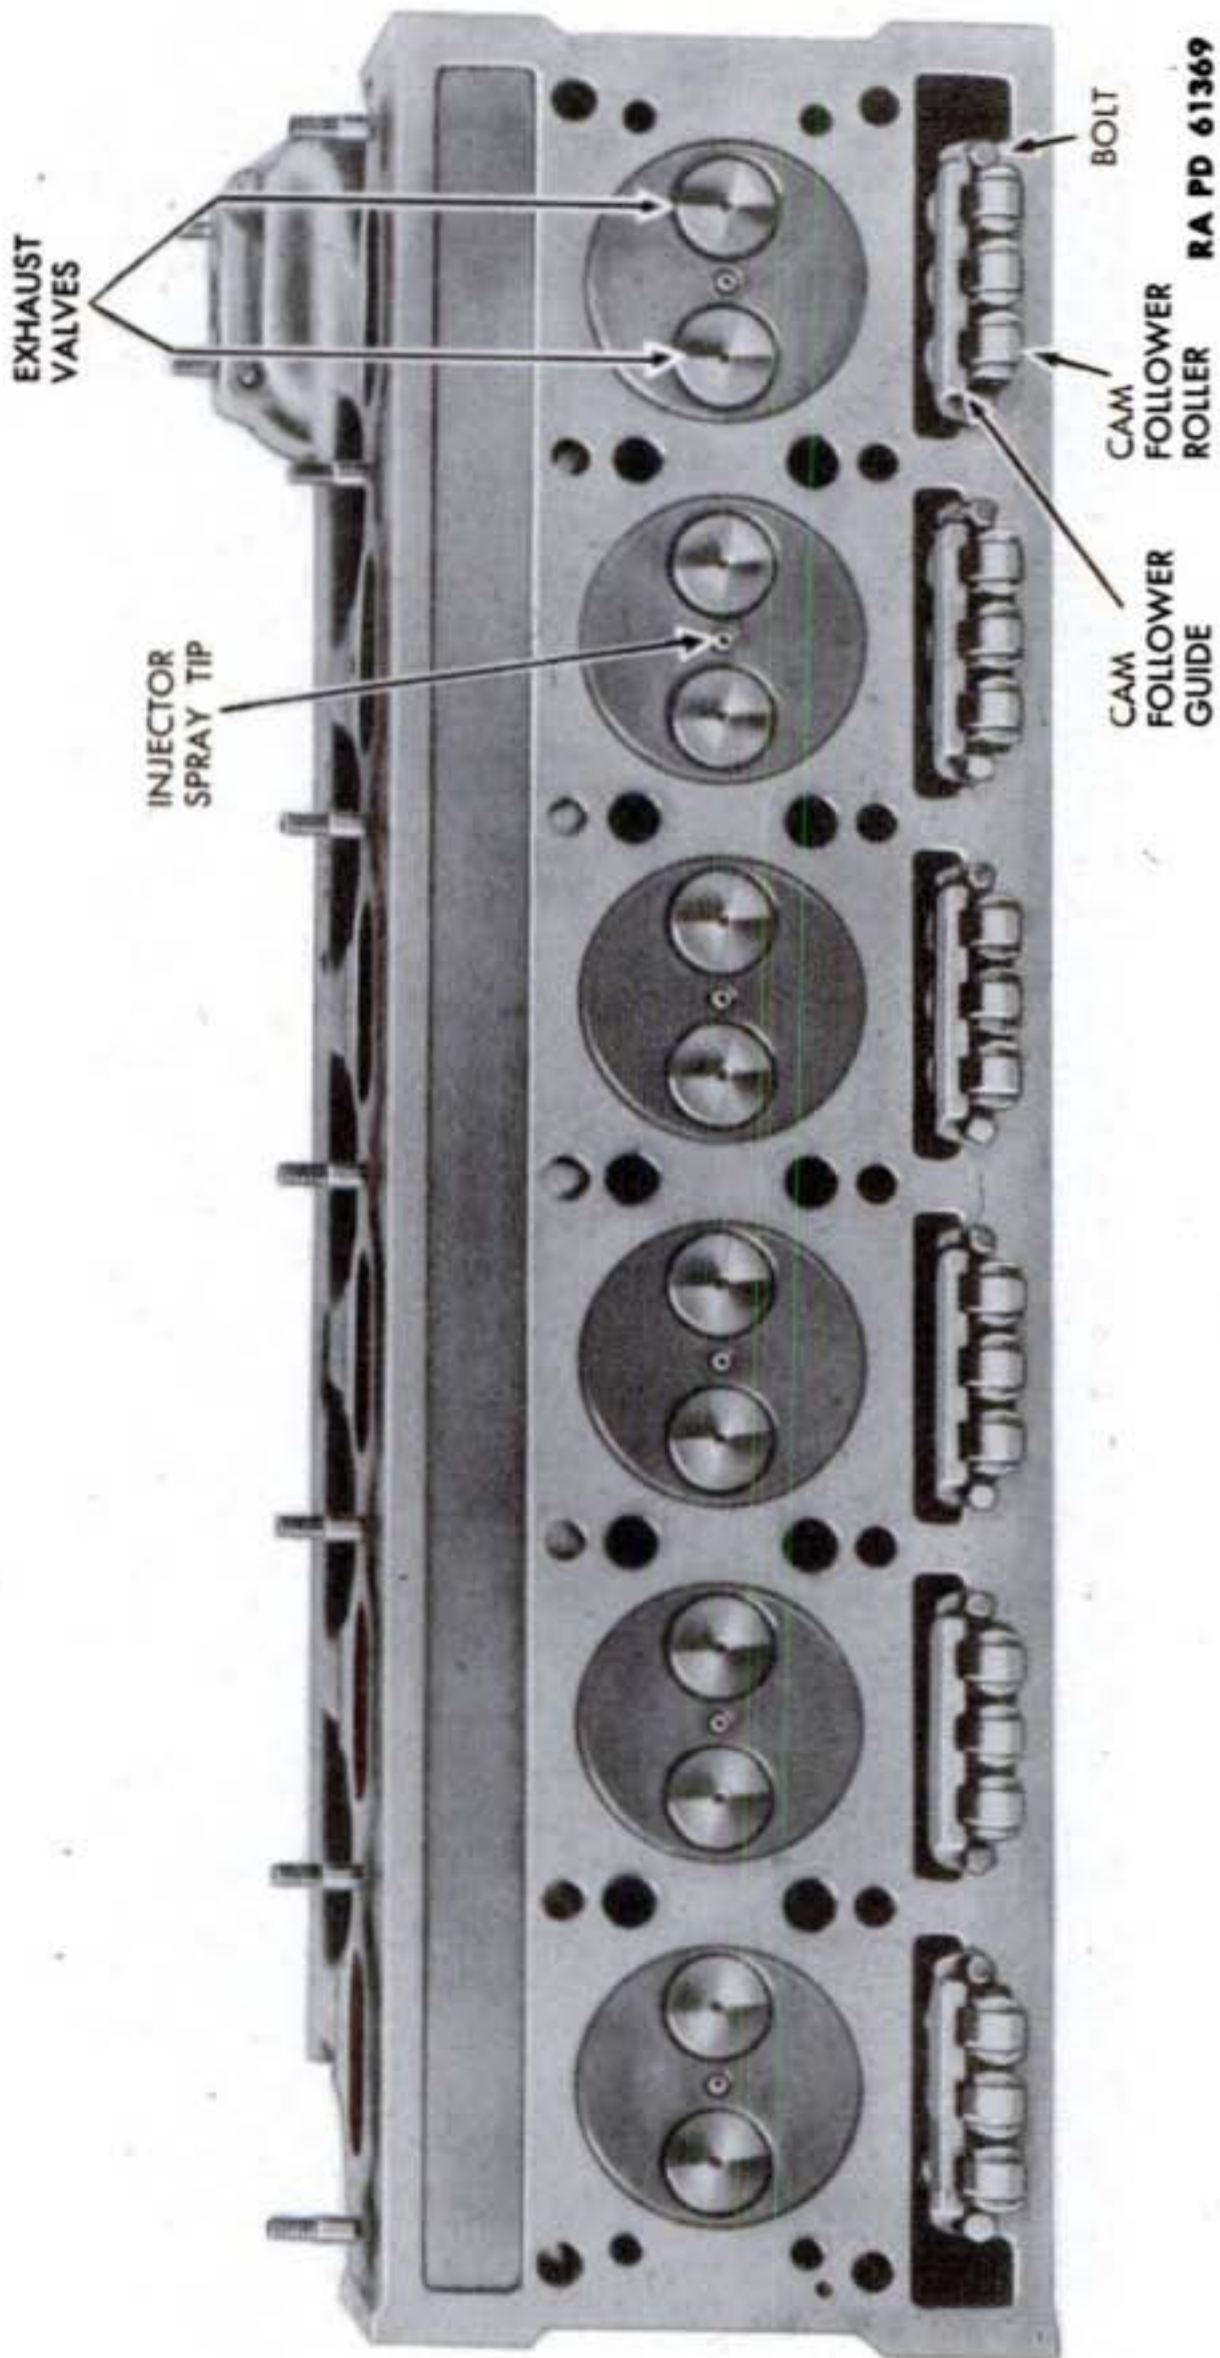

Figure 58—Cylinder Head Removed for Inspection
b. Description of Fuel Supply System. The fuel supply system comprises two sets of fuel tanks, a fuel tank selector valve; also separate primary and secondary fuel filters and a fuel pump for each engine (fig. 58). Fuel from either set of tanks, depending upon the position of the fuel tank selector valve, flows through the primary filters to the fuel pumps. Each fuel pump forces the fuel through a secondary filter and into a fuel inlet manifold which supplies the injectors. Surplus fuel flowing through the injectors into the fuel outlet manifold is pumped back into the fuel tank. Continuous circulation of the fuel helps cool the injectors and keeps the fuel feed system purged of air.